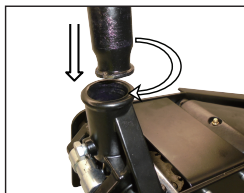

fig 3.
3. Slide the handle assembly into the handle base. The handle assembly will be required to be slowly twisted for the hex shaped drive of the release valve to engaged into the handle assembly slot (fig.3).